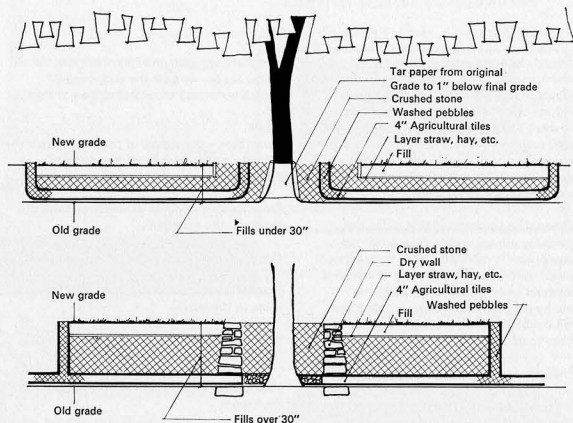

Fig. 4
- 3 Raising grade up to 30" around tree as Figure 4 \$7.00–15.00 per inch of trunk diameter or \$50.00 for a 6"–8" tree with a 20" spread.
- 5 Dry wall 12"–14" thick as Figures 4 and 5 \$3.50–5.00 per SF.